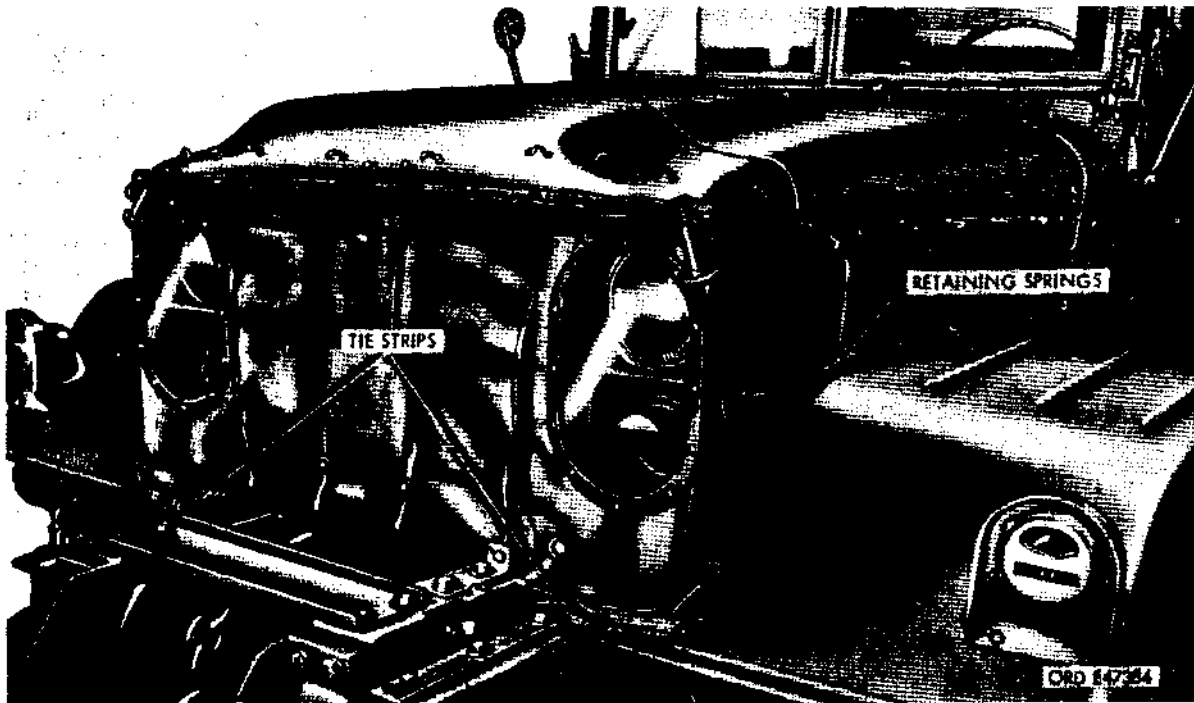

Figure 595. Brush guard cover installed
- (2) On or near the personnel heater control panel, cover an area the size of the typed warning notice with varnish FSN 8010-263-3196 and allow to dry until tacky.
- (3) Place warning notice on varnished area and press smooth and allow to dry.
- (4) Apply a coat of varnish over the warning notice.
m. Install Brush Guard Cover (Fig. 595).
- (1) Place the brush guard cover (FF, fig. 585) over the brush guard, as shown in figure 595. Use the metal grommets on the cover to locate mounting loop positions.
- (2) Drill mounting screw holes with a 11/64-inch drill and secure the loops to the brush guard with the self-tapping screws provided in the kit.
- (3) Fit the brush guard cover over the mounting loops and lace the strip through the loops. Secure the strips at the ends, as shown in figure 595.
- (4) Fold the cover back at the two sides of the radiator shell and locate and drill two 1/4-inch holes for the two retaining springs at each side. Hook the springs into the holes to secure the cover, as shown in figure 595.
- (5) Install the two remaining springs at the other end of the cover.